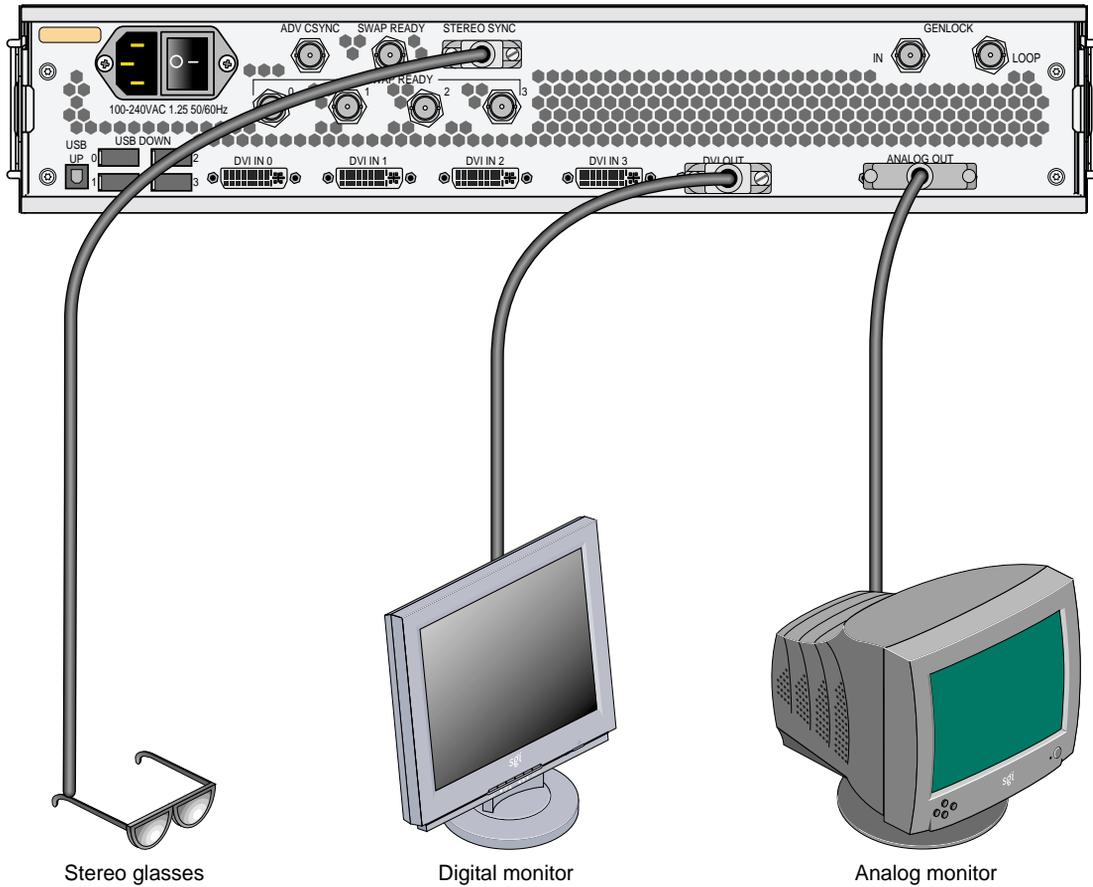

Figure 3-8 Connecting to Digital and Analog Monitors
8. As is applicable to your cabling installation, connect the following items to the compositor (as shown in Figure 3-8):